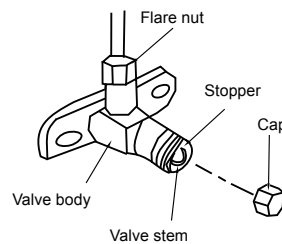

Fig. 7-5
- All the stop valves should be opened before testing. Each air conditioner has two stop valves of different sizes on the side of the outdoor unit, which operate as the Lo-stop value. (Refer to Fig.7-5)